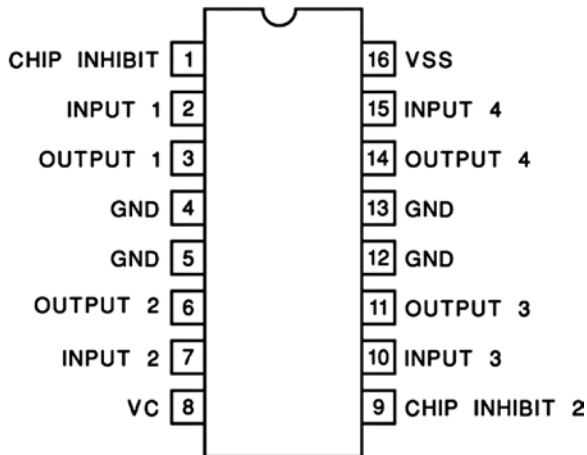

Figure 10-2. Pin diagram for an L293D or SN754410 Motor Driver IC
Digital pins 4, 5, 6 and 7 on the Arduino go to the input 1, 2, 3 and 4 pins on the motor driver (see Figure 10-2). Output pins 1 and 2 of the motor driver go across coil 1 of the motor and output pins 3 and 4 to coil 2. You will need to check the datasheet of your specific motor to see which colored wires go to coil 1 and which go to coil 2. A unipolar motor will also have a 5th and/or a 6th wire that go to ground.
The Vin (Voltage in) pin on the Arduino goes to pin 8 of the driver IC (VC). Pins 4, 5, 12, and 13 all go to ground (See Figure 10-2).